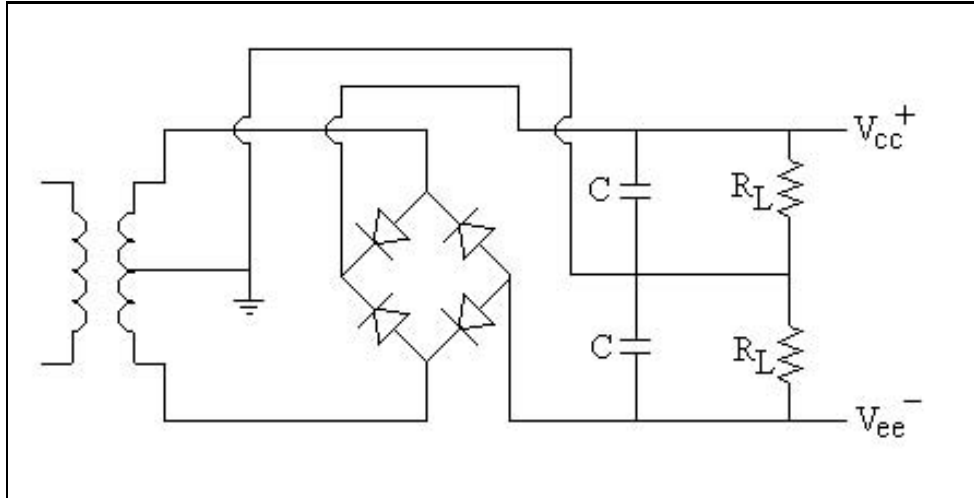

Figure 1.6: Dual Output Power Supply Circuit
1. Using the circuit in Fig. 1.6 as a guide, build a dual sided power supply. A capacitor value of $2200\mu F$ will be used to design and construct a power supply with positive and negative $\pm 17V$ supply rails. (Rail means maximum (+) or minimum (-) power supply
6. Sketch the voltage signals on either side of the transformer, versus time for the circuit in Fig. 1.6. Take the signal frequency into the transformer to be $V(t) = 120\sqrt{2}\sin(2\pi 60t)$, and the step-down turns ratio to be 5:1. Also, sketch the the signals on the two output lines.